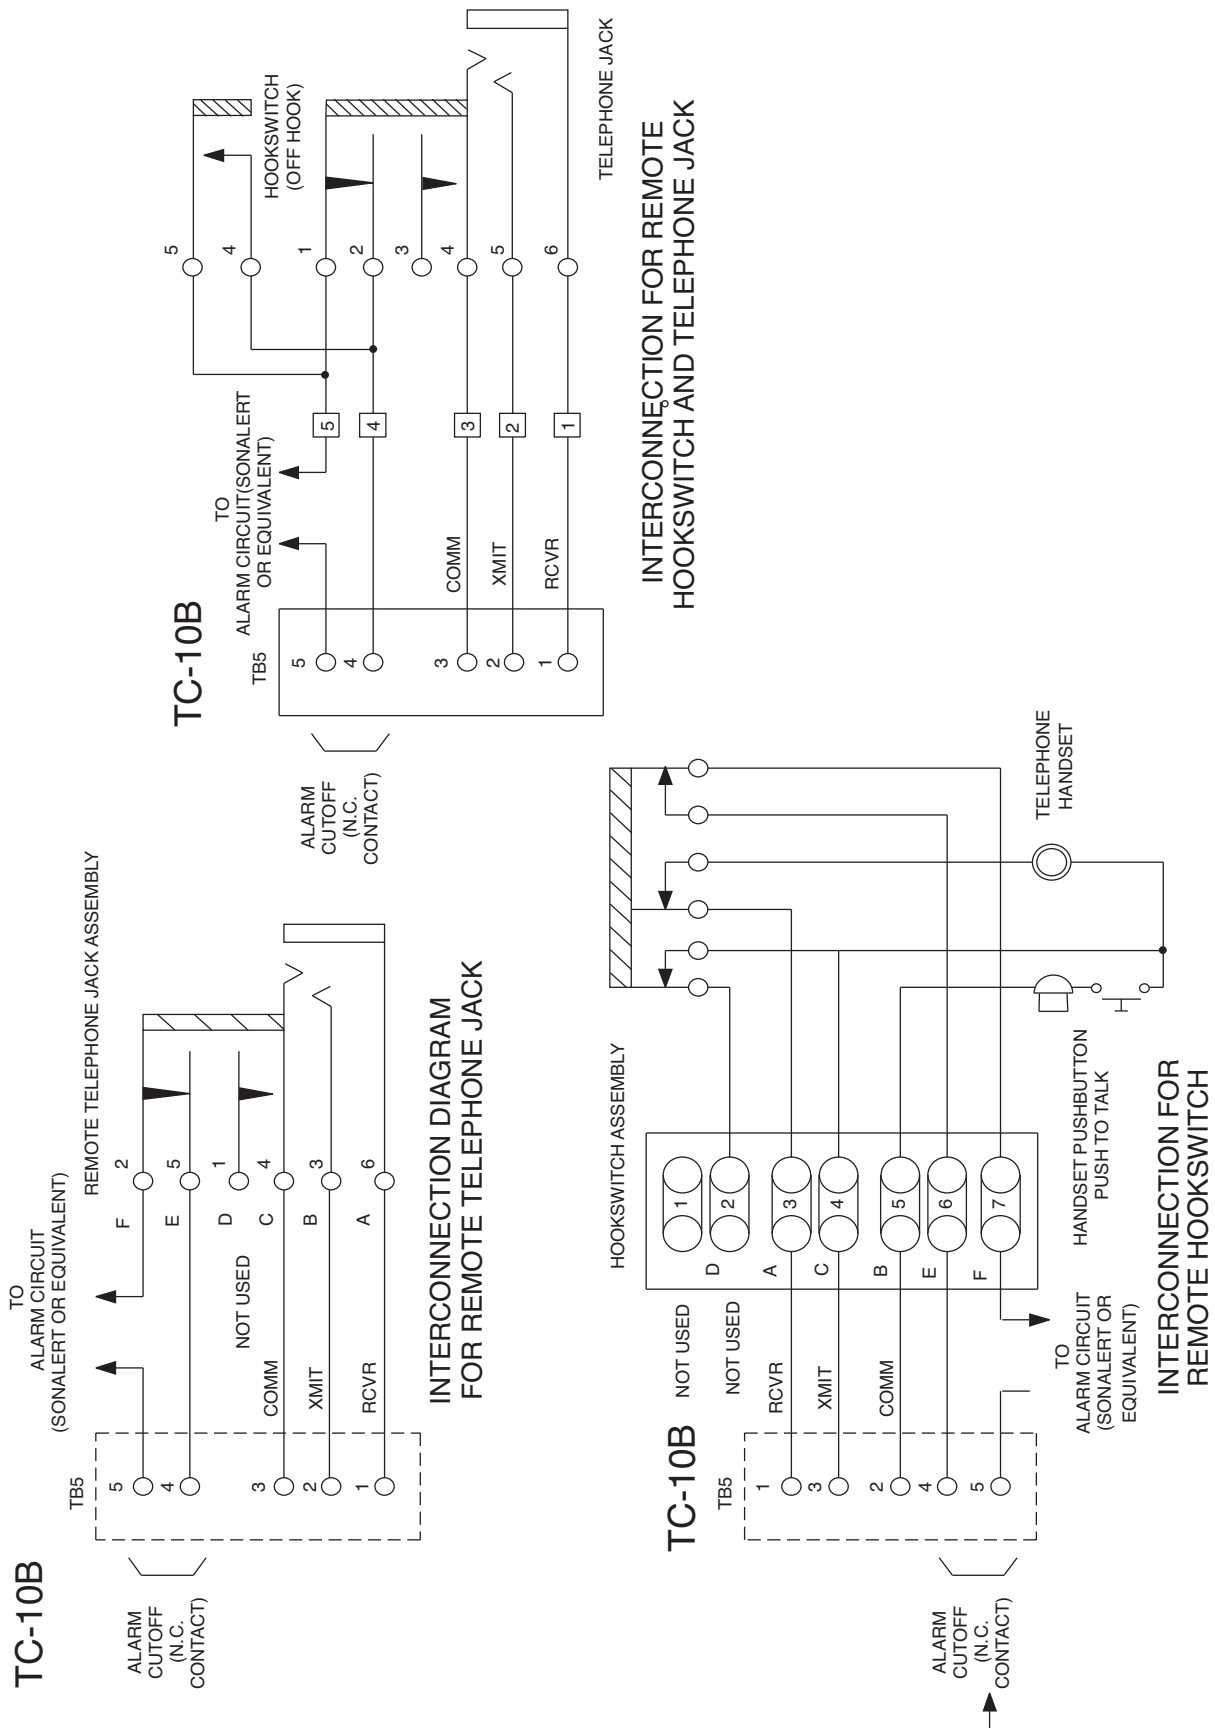
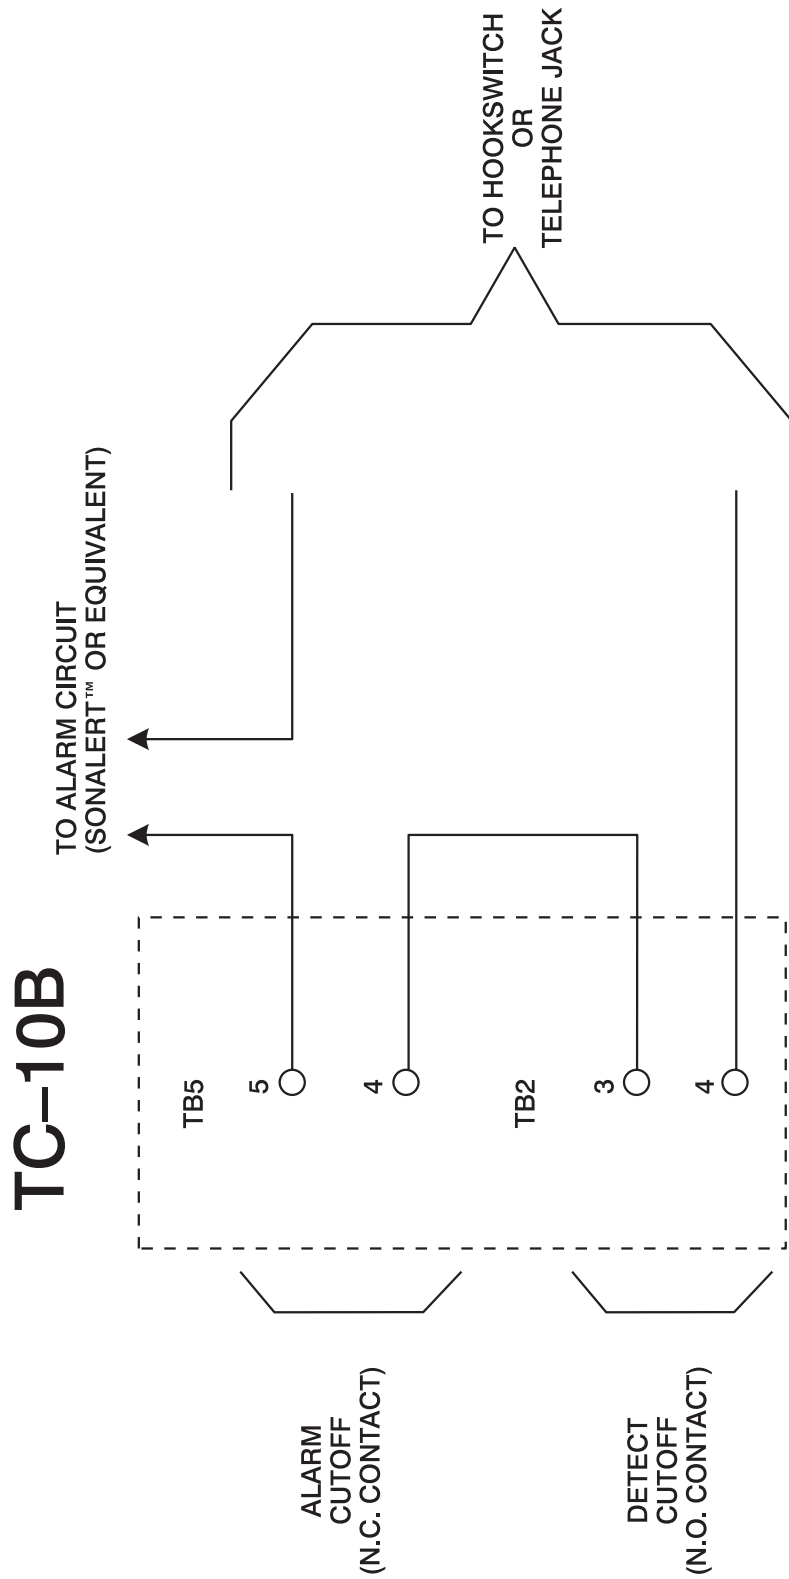

Figure 18-4. TC-10B Interconnecting Diagram (7833C63).
Figure 18-5. TC-10B Connections for Alarm Circuit (7833C63).
2. When a handset is connected, remotely, through a jack to the TC-10B rear panel (see Figure 18-4), the remote jack interrupts the alarm circuit.
3. When a handset is removed from its hookswitch; the hookswitch assembly being connected remotely to the TC-10B rear panel (see Figure 18-4), the hookswitch contacts interrupt the alarm circuit.
4. When a handset is used in combination with a hookswitch, lifting the handset and plugging in the handset interrupts the alarm circuit (see Figure 18-4).
When using the TC-10B with voice, refer to Figure 18-5 for the alarm cutoff circuit.
Cradle a handset without a push-to-talk switch on a hookswitch assembly in a location remote from the TCF-10B Voice Adapter Module. Connect the hookswitch assembly in series with the alarm circuit, as well as to the TCF-10B rear panel terminal block TB5 (see Figure 18-4 and Figure 18-5).
Connect the alarm circuit per Figure 18-4 and Figure 18-5.
- By plugging the handset into a jack, which is connected remotely to the TC-10B rear panel (TB5); the jack contacts interrupt the alarm (see Figure 18-4, top scheme)
- By lifting the handset from the hookswitch assembly, which is connected remotely to TB5; the hookswitch contacts interrupt the alarm (see Figure 18-4, bottom scheme)